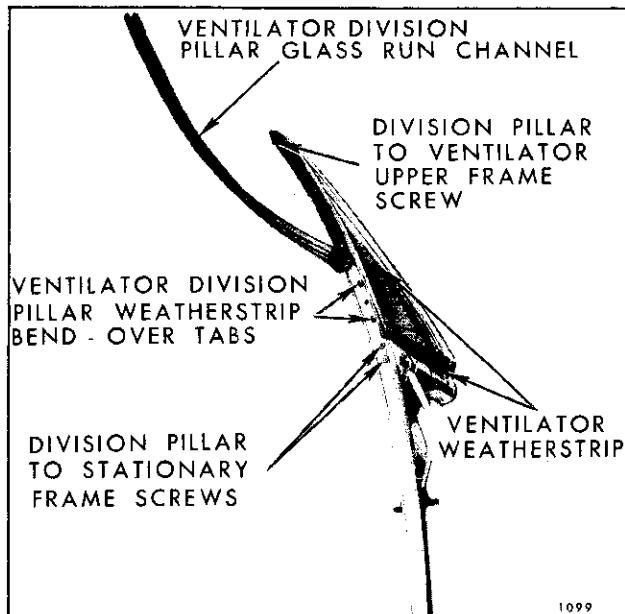

Fig. 6-98—Rear Door Ventilator Assembly —
2. Remove ventilator division pillar glass run channel strip assembly by disengaging lower end and pulling strip upward (Fig. 6-98).
3. Remove division pillar to ventilator stationary frame attaching screws (Fig. 6-98).
4. Remove division pillar to ventilator upper frame (and rubber bumper) attaching screw (Fig. 6-98) and separate ventilator frame and division channel.
6. Straighten division pillar weatherstrip bend-over tabs (Fig. 6-98), and remove weatherstrip.